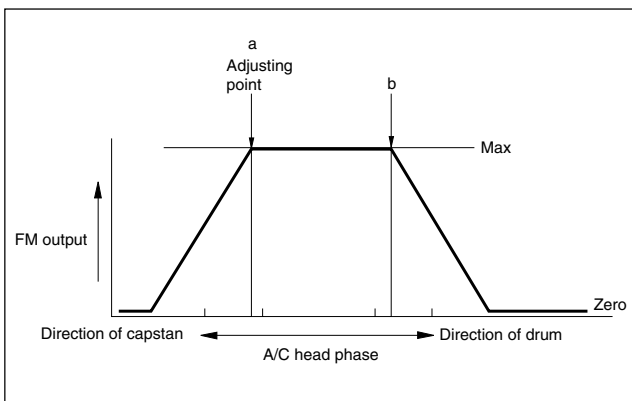

Fig. 2-4-8 Phase adjustment point of control head
3. Operate the tracking button in the center and manual tracking mode by pressing the tracking (+) and (–) buttons and confirm that the FM output level is maximum at the center position as shown in Fig. 2-4-8.
4. If necessary, slightly loosen the setscrews ⑩ and ⑪ and insert the Tweezers into the notch and guide hole to move the A/C head fully in the direction of the capstan to the extent.
5. Gradually move the A/C head toward the drum to find the position where the FM output level maximum for the first time (a' – b' in Fig. 2-4-8).
6. Fine adjust the phase of the A/C head and tighten the screws ⑩ and ⑪ at the point a.